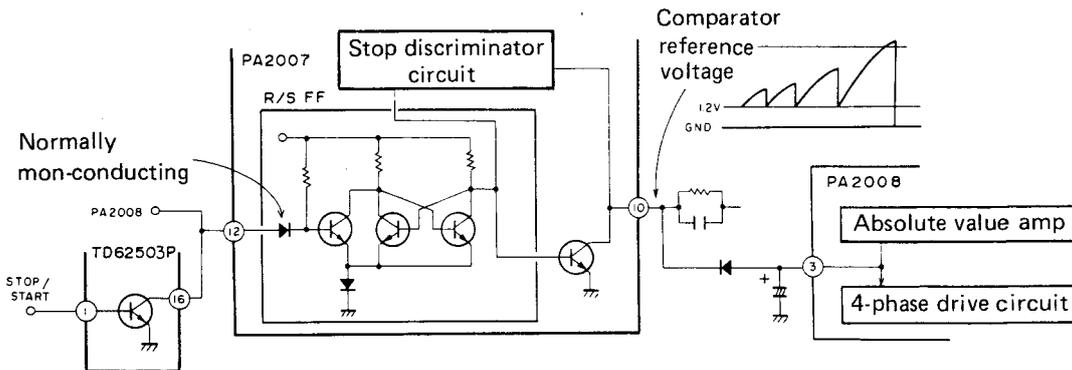

Fig. 4-10 Stop discriminator theoretical circuit
2. The stop discriminator circuit functions to detect low or high rotation speed through the charge/discharge status of capacitors and resistors connected to IC PA2007 pin 10 ($T_o/STOP$), and when rotation drops below a certain speed, motor torque is dropped to zero. A theoretical circuit diagram is shown in Fig. 4-10.